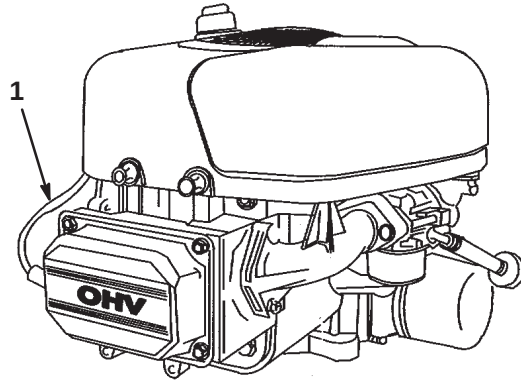

Figure 21
2. Pull the wire off of the spark plug (Fig. 21). Clean around the spark plug to prevent dirt from falling into the engine and potentially causing damage.
3. Push the wire onto the spark plug (Fig. 21).